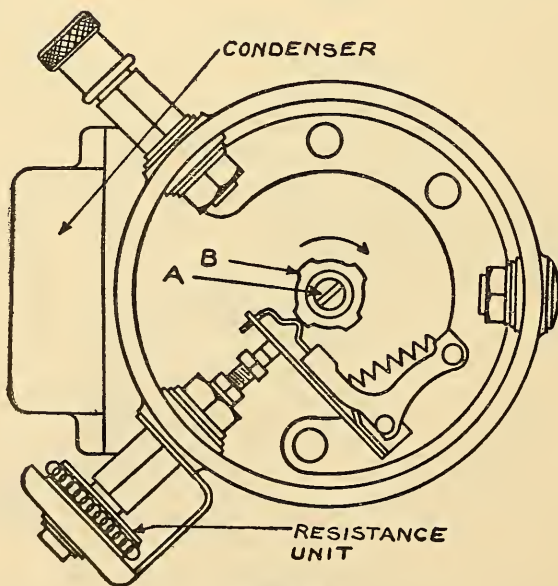

Fig. 52.
3. Loosen the screw A, Fig. 52, in the center of timing mechanism and locate the proper lobe of the cam by turning with the rotor on the cam until the button on the rotor comes directly under the position the No. 1 high tension terminal in the distributor head will occupy when the distributor head is properly located.
4. Set the cam B, Fig. 52, so that when the back lash in the distributor gears is taken up clockwise the timing contacts will be open, and when the rotor is rocked backward to take up the back lash the contacts will just close.